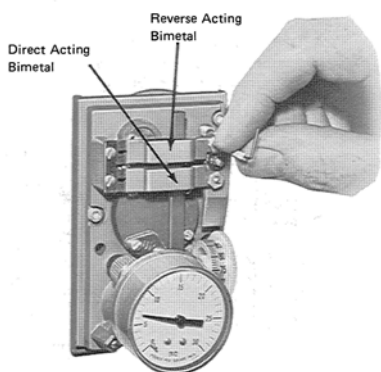

Figure-6
5. With a 0.48-inch six spline wrench, turn the calibration screw (Figure-6) clockwise if the controlled pressure is above 8 psig (55.1 kPa) and counterclockwise if it below 8 psig (55.1 kPa). Adjust the screw until the controlled pressure is 8 ± 1 psi (55.1 ± 1 kPa).